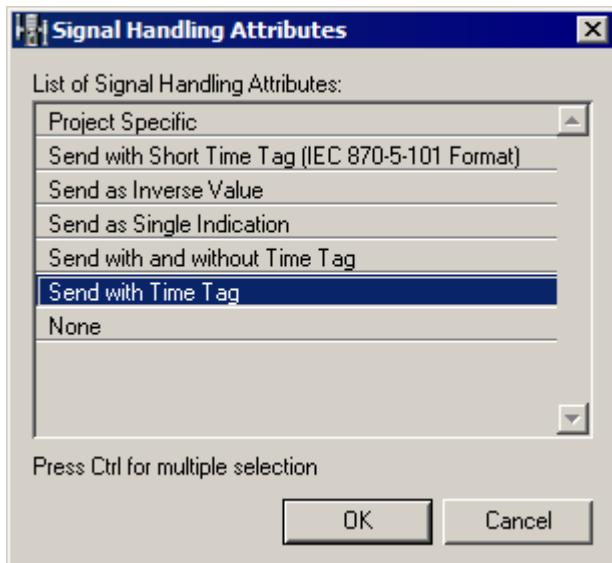

Figure 35: Signal Handling Attribute dialog
7. Click the button on the right side of the signal-handling field and the **Signal Handling Attributes** dialog appears on the screen (see Figure 35). Select one or several signal handling attributes from the list of attributes. To select several attributes, hold the CTRL key down while clicking the attributes.